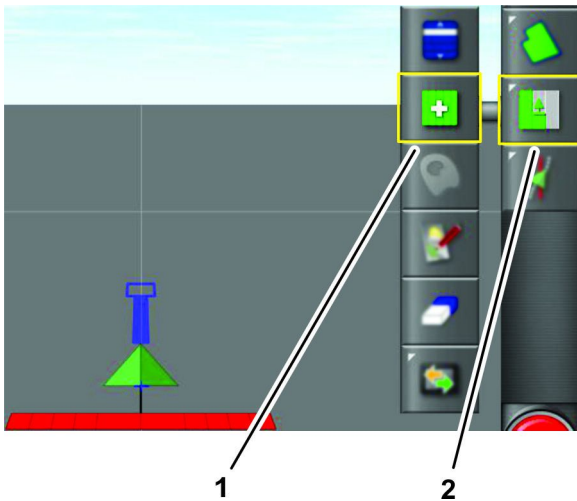

Figure 93
3. Press the Job Menu icon (Figure 93).
4. Press the Select Job icon (Figure 93).